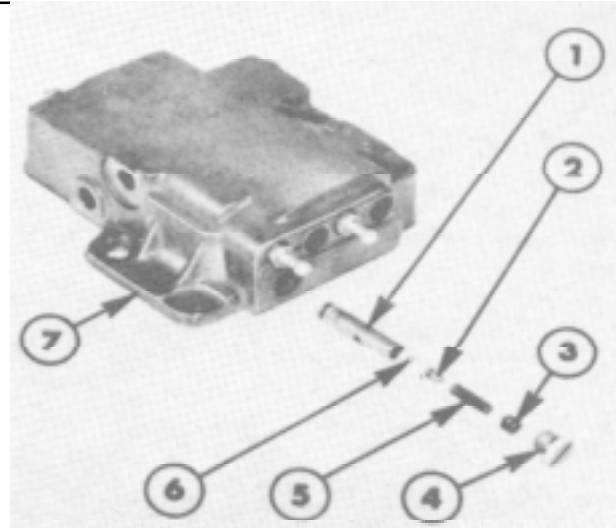

Figure 15
2. Remove the set screw from the end of the regulating valve and separate the spring, poppet, and ball from the valve sleeve, Figure 15.